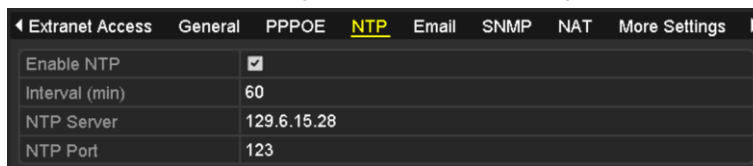

Figure 11. 14 NTP Settings Interface
2. Select the **NTP** tab to enter the NTP Settings interface, as shown in Figure 11. 14.